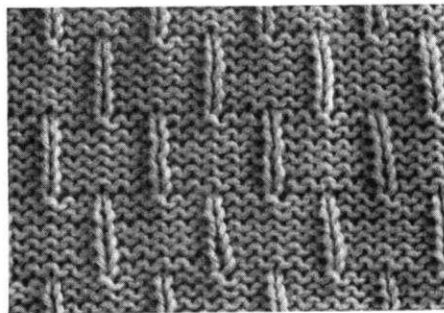

Fig. 30
#### No. 6. JACK STRAW STITCH (VI), fig. 30